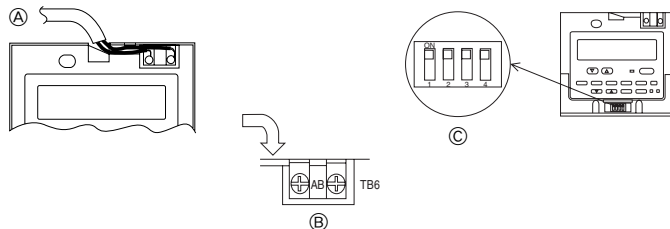

Fig. 7-7
2) Connecting procedures (Fig. 7-7)
① Connect the remote controller cord to the terminal block.
② Set the dip switch No.1 shown below when using two remote controller's for the same group.